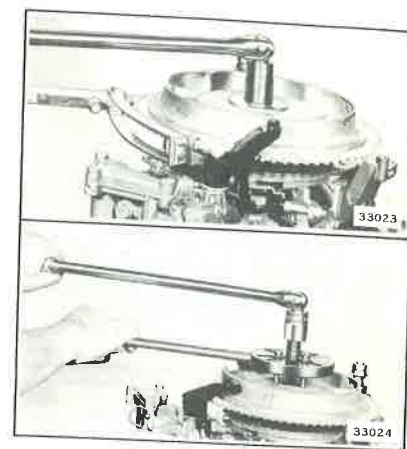

Figure 4-10. Pulling Flywheel
- Remove flywheel nut, using an appropriate holding tool. Remove cover. Using flywheel puller (Special Tool #378103), pull flywheel from crankshaft. See Figure 4-10.